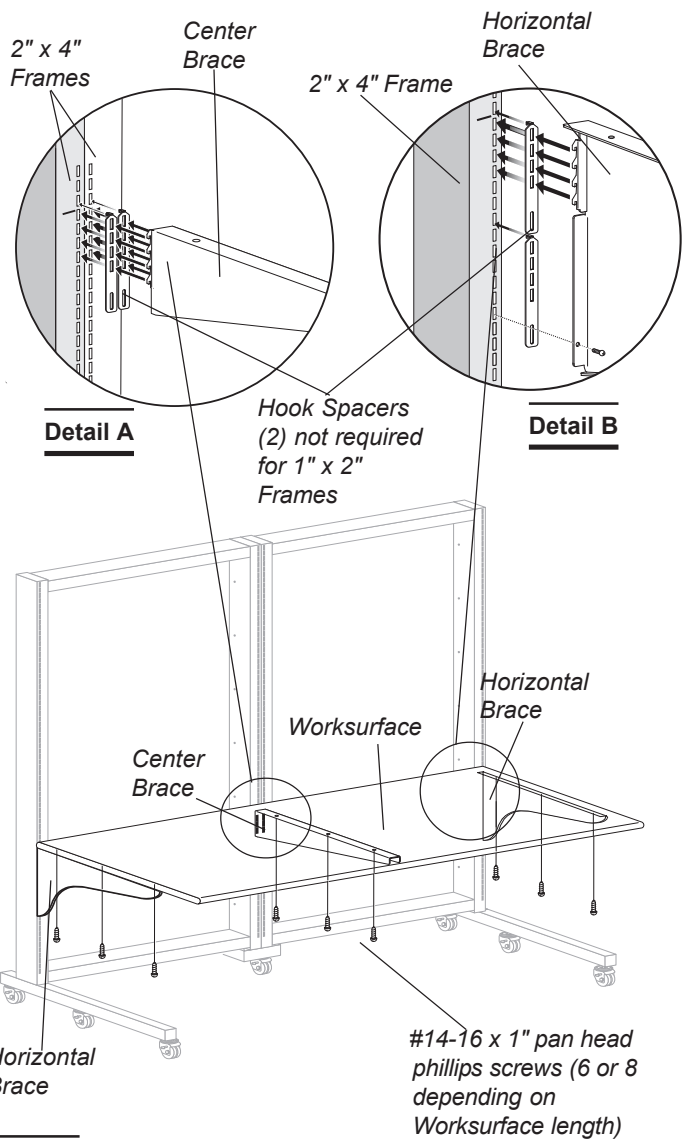

Figure 2
For 60" (1524 mm) and 72" (1928.8 mm) Worksurfaces, attach the Center Brace as shown in Figure 2, using the same procedure as given in Step 3.
7. Screw the #14-16 x 1" pan head phillips screws through the Braces and into the predrilled holes in the Worksurface as shown in Figure 2.
8. Screw the #14-16 x 1" pan head phillips screws through the Braces and into the predrilled holes in the Worksurface as shown in Figure 2.